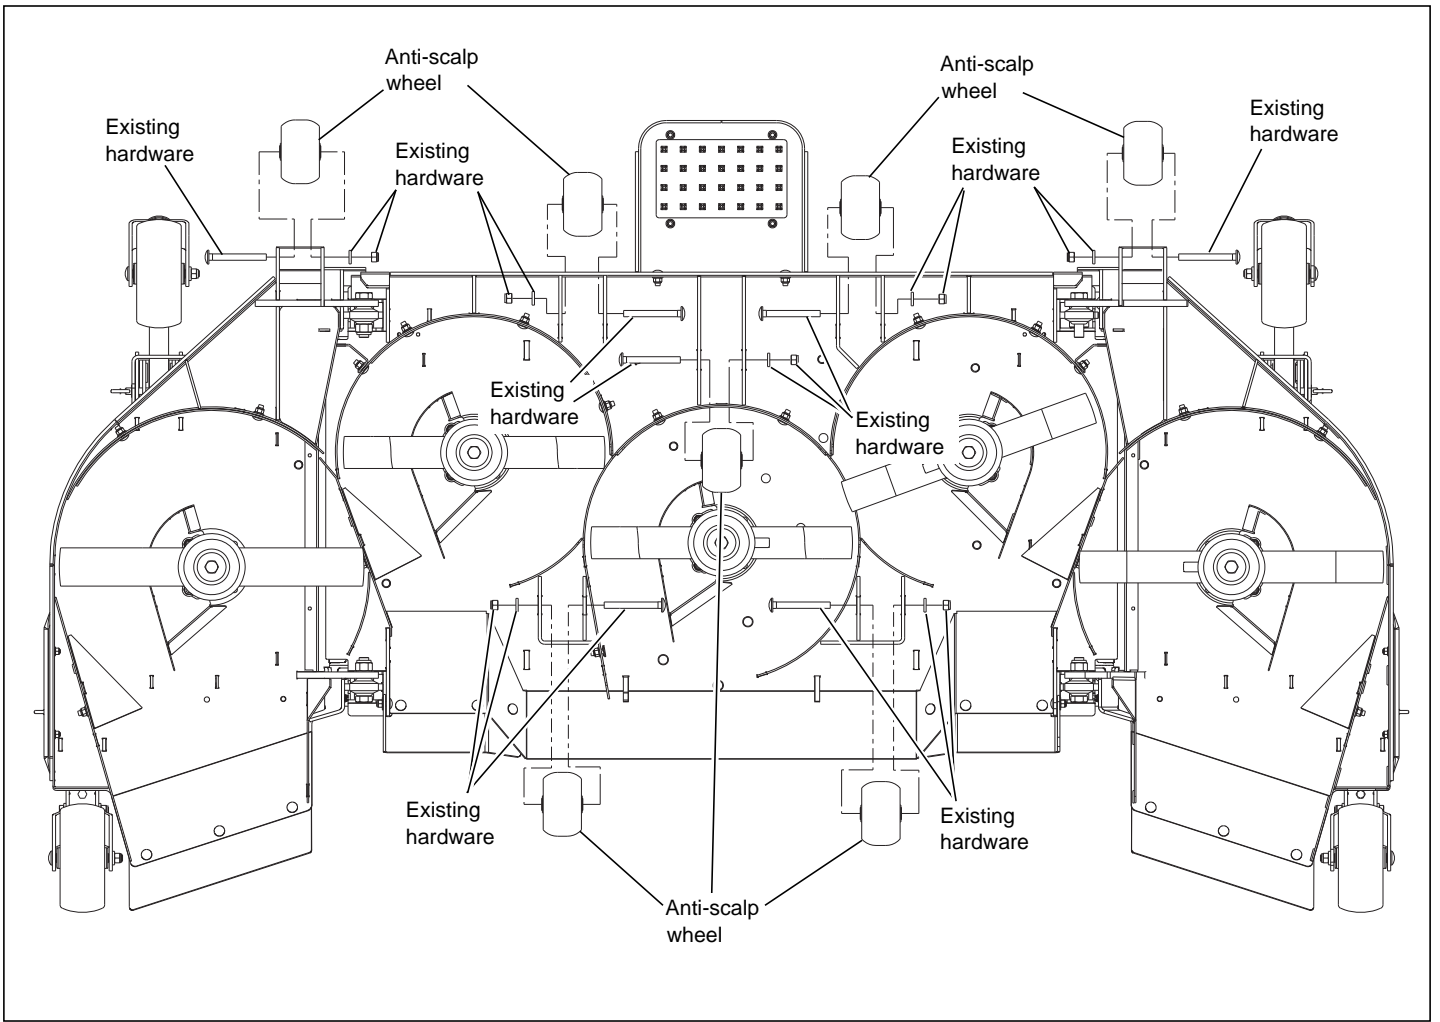

FIG. 1
6. Install the new anti-scalp wheels using the existing hardware as shown in Fig. 1.